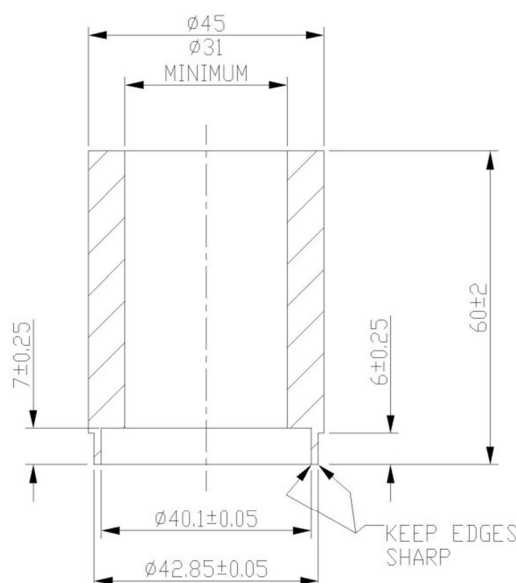
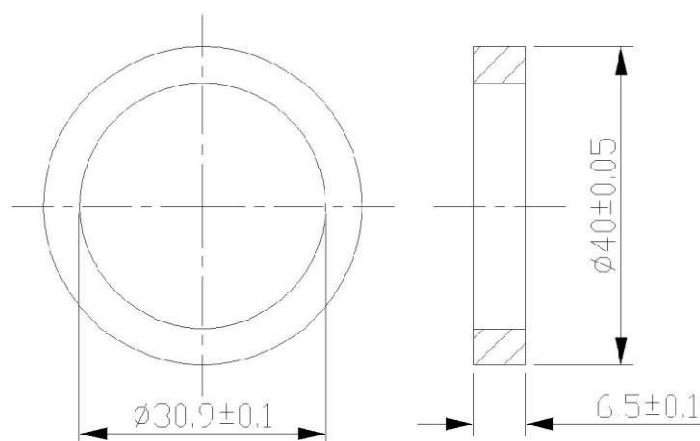

Figure 23 - Sleeve dimension
Figure 26 - L Cup insertion tool
To remove the seal seat from the back of the rotor a special tool is required. This tool needs to be manufactured to the dimensions shown in Figure 23.
- Use a soft sleeve made from Nylon, as shown in Figure 23, and fit it into the end of the tool as shown in Figure 26. Alternatively use your fingers to do this in order to avoid damage to the seal face.